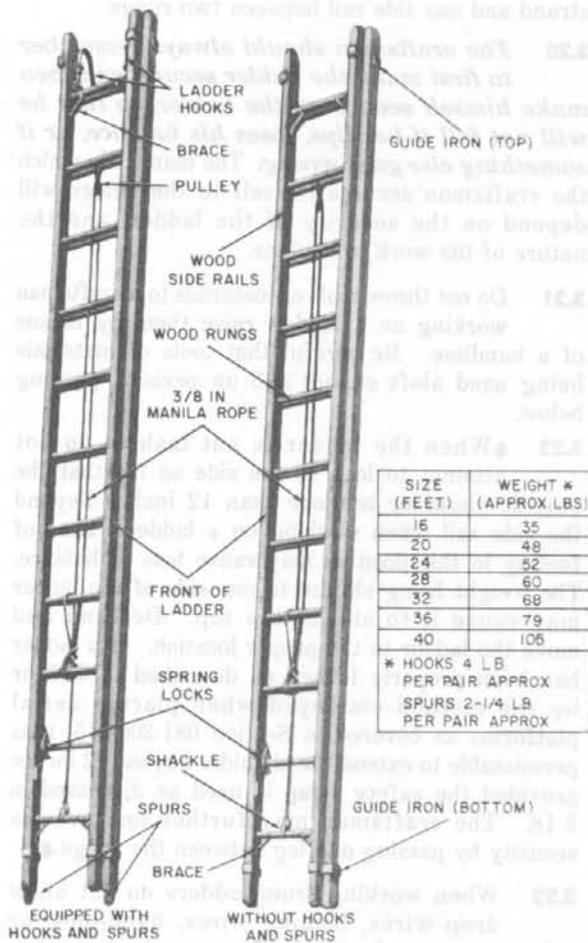

Fig. 1—C Extension Ladders
2.03 The C ladders (Fig. 1) are supplied in 16-, 20-, 24-, 28-, 32-, 36-, and 40-foot sizes. The size of an extension ladder is the sum of the lengths of the two sections, *not the length the ladder is designed to reach*. If desired, all ladders longer than the 16-foot size can be obtained with spurs to prevent the ladder feet from slipping. Where work is to be done on aerial cable, the 20-, 24-, or 28-foot sizes may be obtained equipped with rotatable ladder hooks.